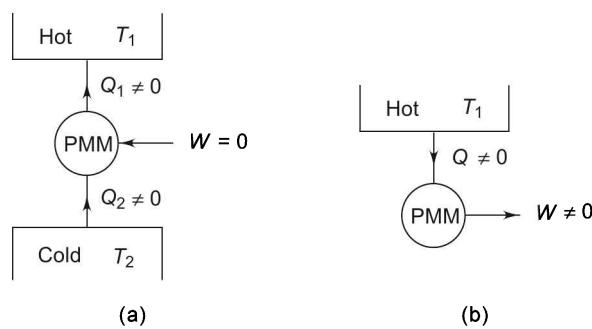

FIGURE 3.7 Perpetual motion machine.
Perpetual Motion Machine: The Perpetual Motion Machine (PMM) of second kind is a machine which violates the Clausius or Kelvin–Plank statement of the second law of thermodynamics. Figure 3.7(a) shows PMM II, which extracts heat Q_2 from the cold body (T_2) and delivers to the hot body (T_1) without aid of work ($W = 0$). Figure 3.7(b) shows PMM II, which takes heat (Q) from the hot body (T_1) and converts fully into work (W) without any rejection of heat to the cold body.